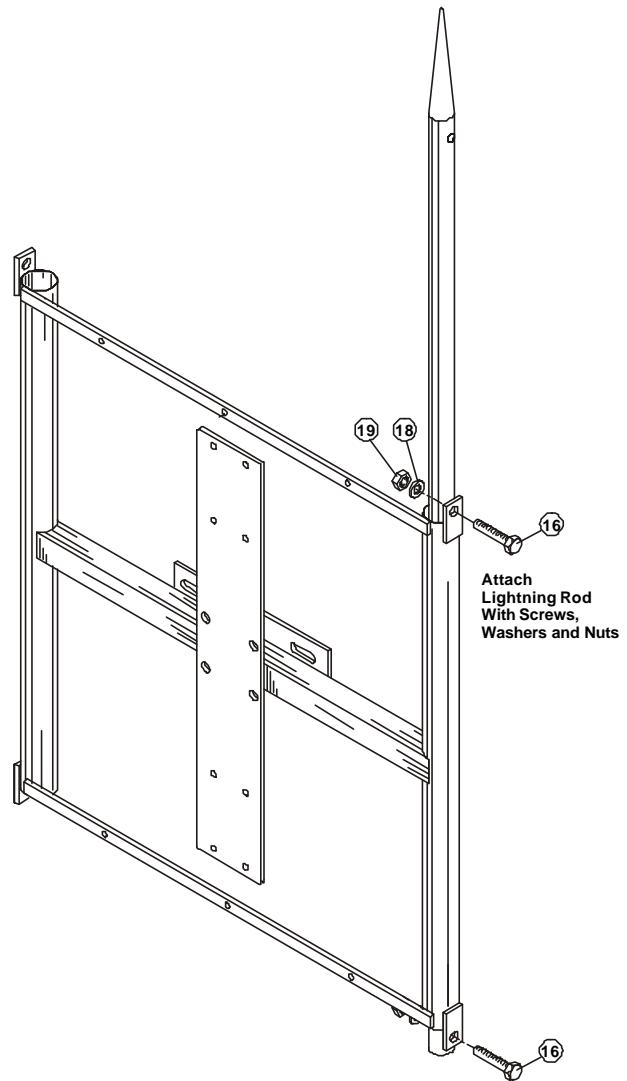
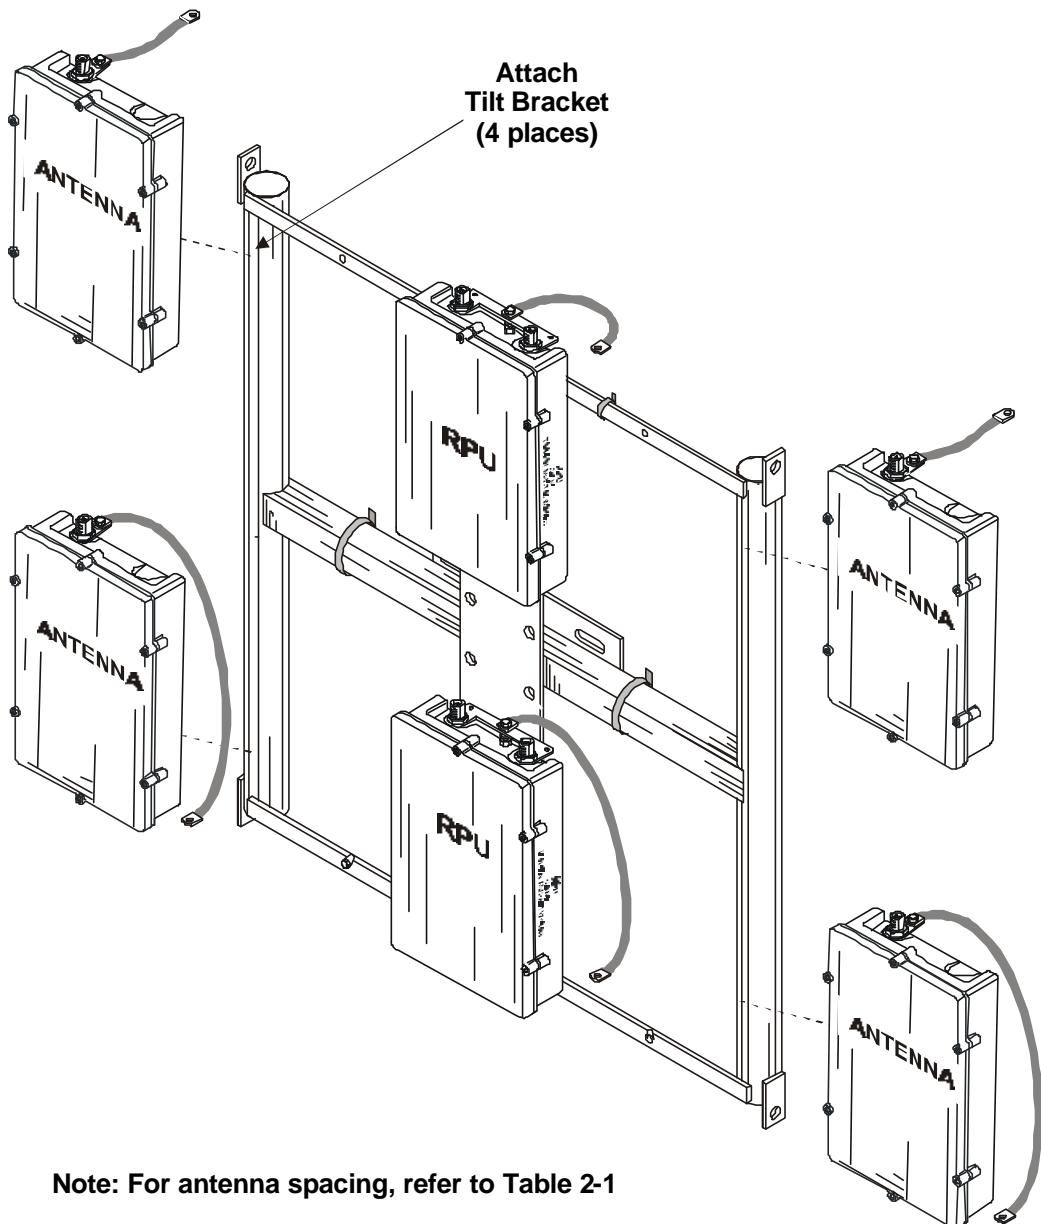
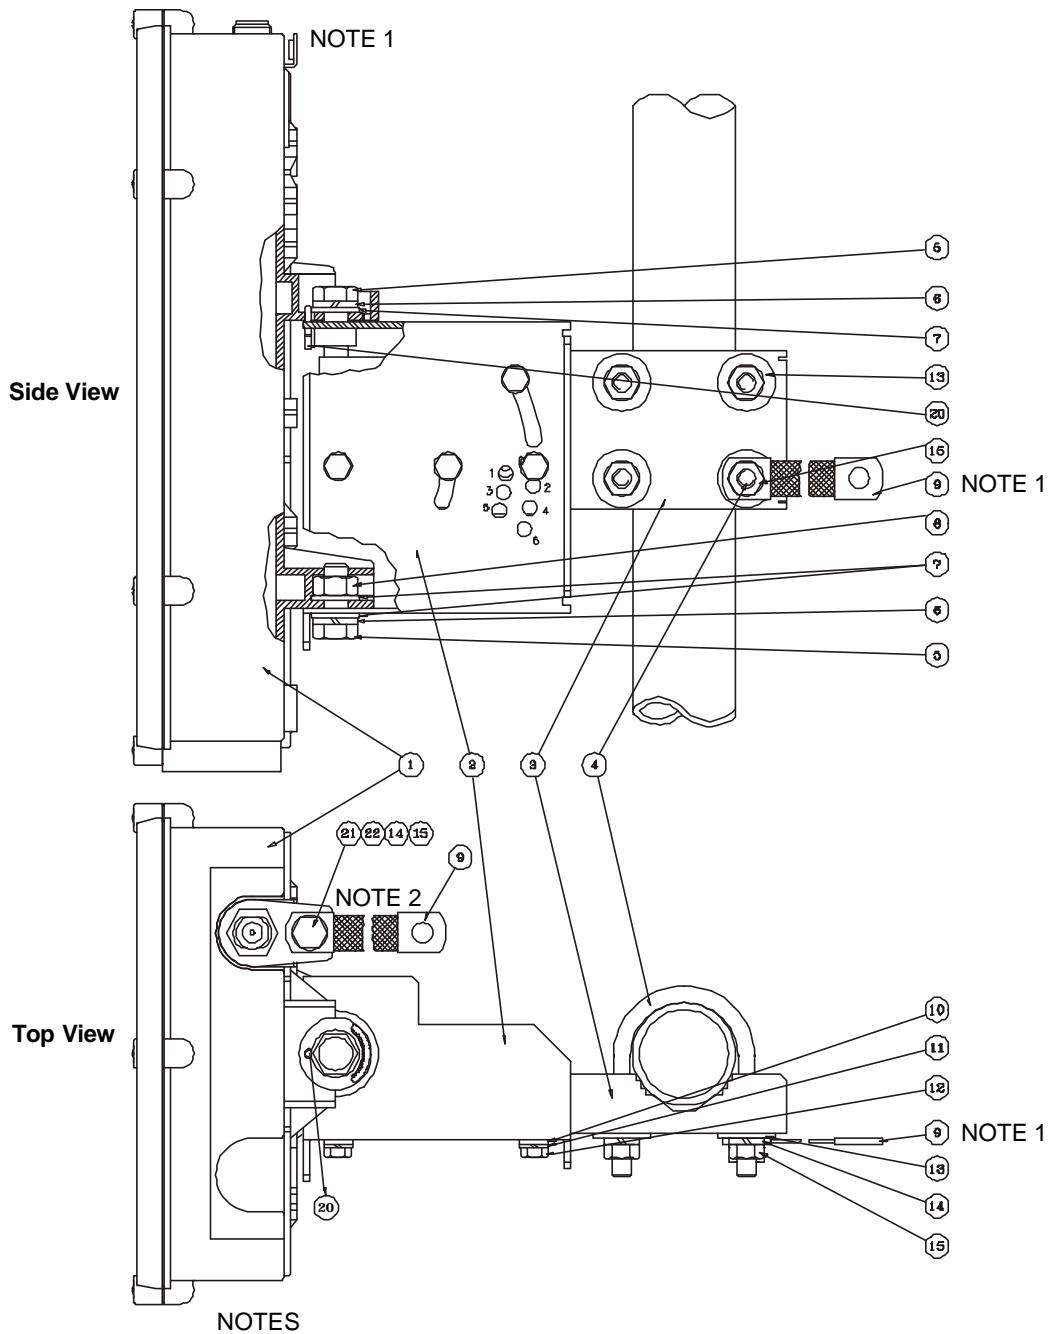
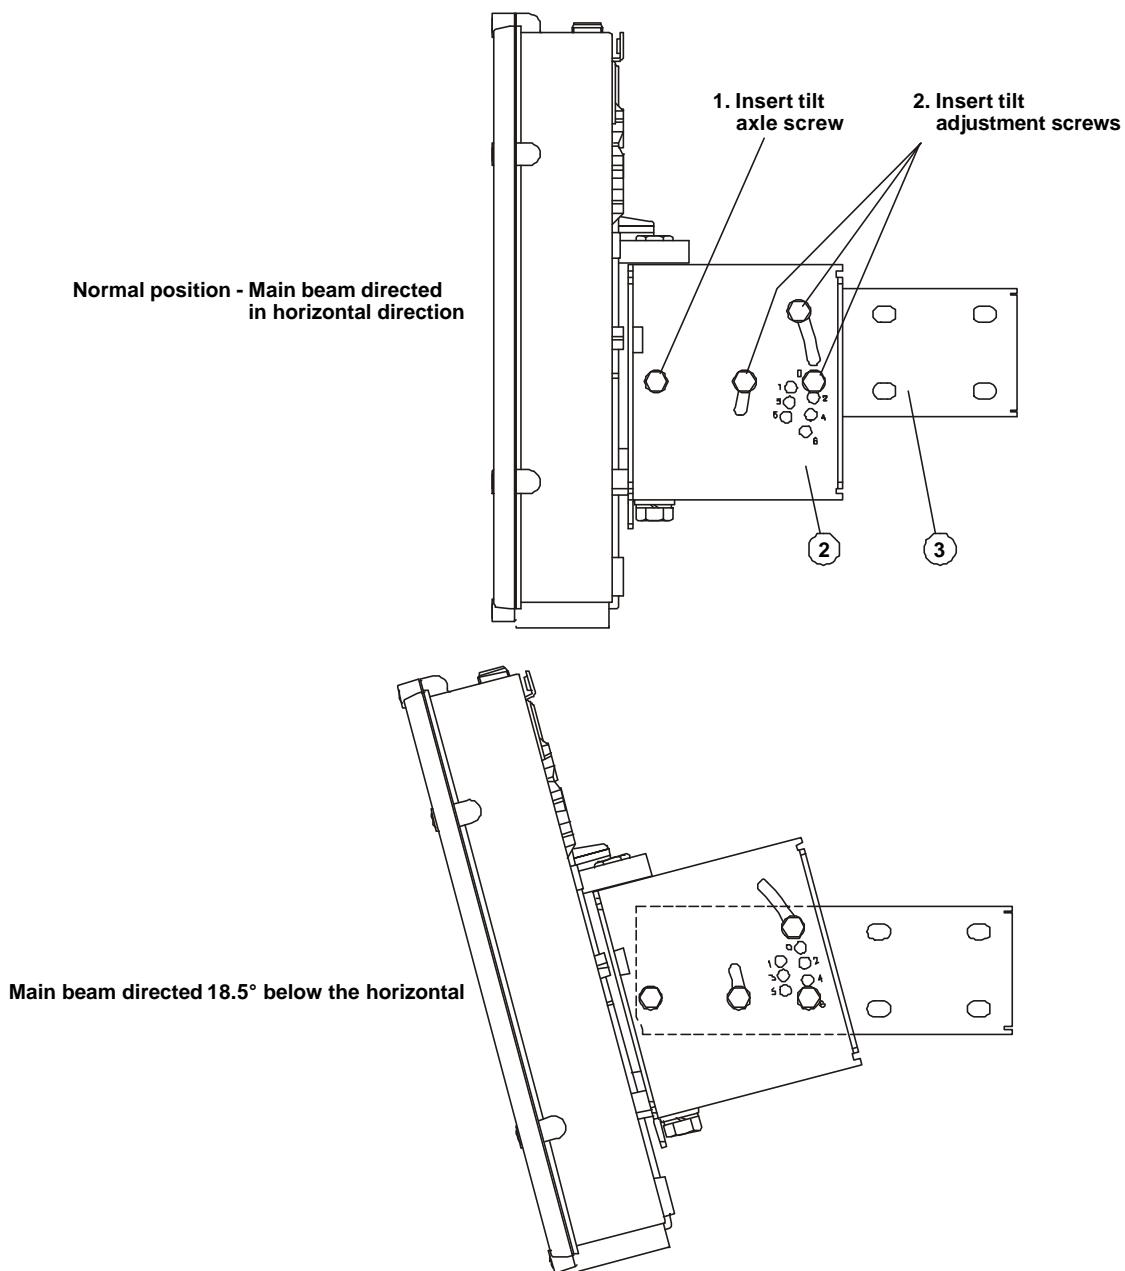

Figure 3-16. Attachment of Lightning Rod
Figure 3-18. RPU's Mounted on H-Support for Pole Mounting
Figure 3-19. Antenna and Tilt Accessories
Figure 3-22. Antenna Tilt Adjustment
Refer to Figure 3-2 and Figure 3-9 through Figure 3-16. Numbers in brackets indicate numbers of items in Figure 3-2 and Figure 3-16.
Refer to Figure 2-5 and Figure 3-16 through Figure 3-18. Numbers in brackets refer to Figure 3-17. For each RPU perform the following procedure.
Refer to Figure 1-5 and to Figure 3-18 through Figure 3-22. Numbers in brackets indicate items in Figure 3-19 through Figure 3-22. Para a. below is applicable to sectorized antennas with external reflector. For sectorized antennas without reflectors, skip to para. b. below.
Two. Tilt Accessories Attachment. Refer to Figure 3-19 through Figure 3-22.
- (3) Insert a screw and spring and flat washers (5, 6, 7) through the upper antenna attachment ear (as shown in Figure 3-19) and screw it by hand in the thread of the tilt holder (2).
- (4) Insert a screw and spring and flat washers (5, 6, 7) through the lower antenna attachment ear. Insert a flat washer and a nut (8), and then screw the nut by hand, clockwise, on the screw that fastens the lower attachment ear.
- (5) Position the tilt bracket (3) in the inner side of the tilt holder (2), fasten it to the tilt holder using the tilt axle screw (12) and spring and flat washers (10, 11). Tighten the screw by hand.
- (6) Insert the split pin (20) in the dedicated holes through the upper antenna ear and the tilt holder and secure it by bending its ends.
- (7) Tighten the upper and the lower screws (5) and nut (8).
- (8) Position the tilt bracket to zero tilt. Insert the three tilt adjustment screws and washers and tighten them so that the tilt holder will stay in the horizontal position (i.e., zero tilt).
- (9) Refer to Figure 3-22. The tilt assembly enables to direct the main beam of the antenna in the horizontal direction and below the horizontal up to -18.5° , as specified in Table 3-7. Adjust the antenna to the desired tilt position. Place the tilt adjustment screw in the appropriate position in accordance with the desired tilt angle and tighten the tilt axle and the tilt adjustment screws. Do not exert excessive force.
- (10) Attach a grounding wire to the antenna grounding plate by means of a screw (21) flat washer (22), spring washer (14) and nut (15).
- (1) Refer to Figure 3-18. Determine the place of the antenna on the H-support in accordance with the requirements of para. 2.2.3.
- (2) Secure the tilt bracket (3) to the H-support by means of two tilt clamps (5), washers (13, 14) and nuts (15).
- (3) Skip to this step for antenna without external reflector: on the lower tilt clamp, insert a grounding strap (9) between the flat and the spring washer.
- (4) Adjust the antenna heading by rotating the tilt bracket around the pipe of the antenna support until the desired antenna heading is reached.
- (5) Tighten the four nuts (15) that secure the tilt bracket (3) to the H-support.